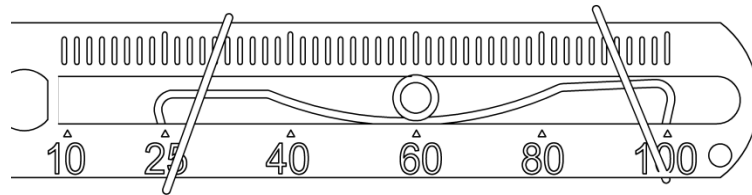

Figure 20. Feedback lever B and driving pin connection
- For feedback lever A, hold the linear stroke mounting bracket⑦ against the actuator. Plug the head of feedback lever⑤ into the U-shaped rod①. For feedback lever B, insert the driving pin⑩ into the fixed spring in the slot of the feedback lever B, as shown in Figure 20. Make the valve main stem and feedback lever are at right angle. If it cannot be at right angle, install according to the actual situation.